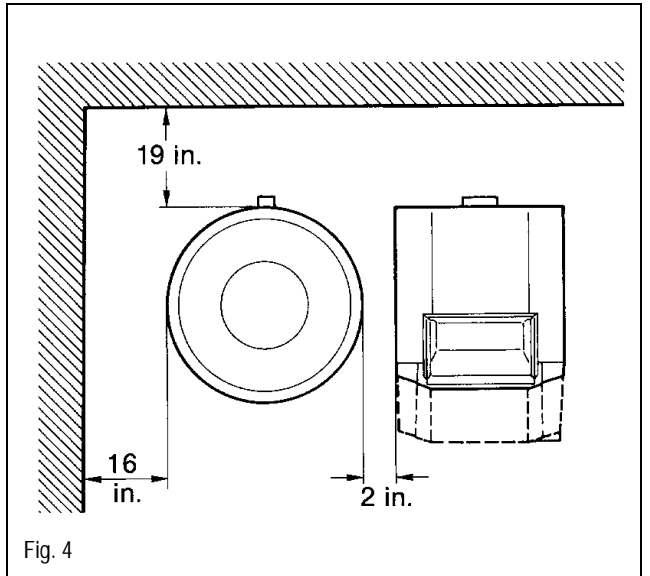

Fig. 4
- Refer to recommended clearances for adequate access for piping, pumps and service (Fig. 4).